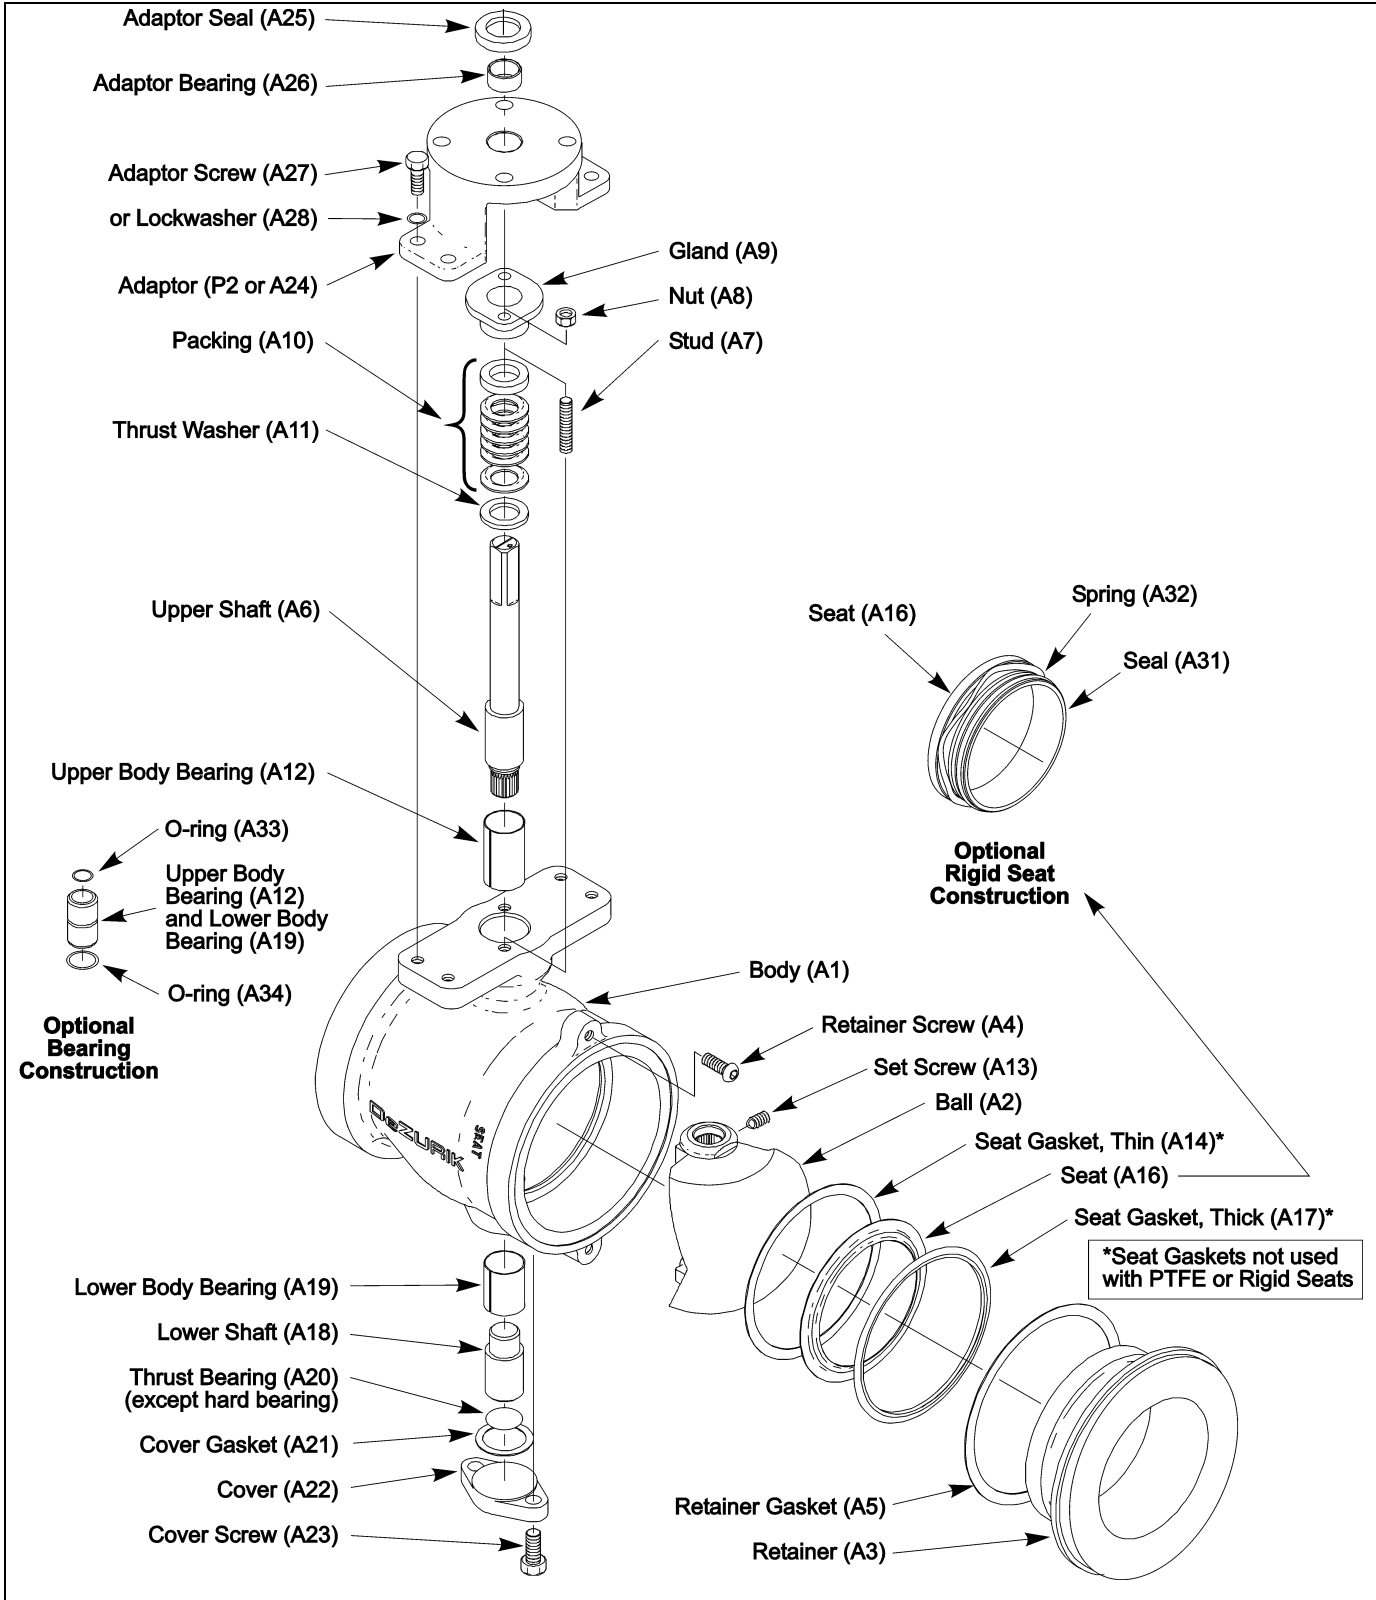
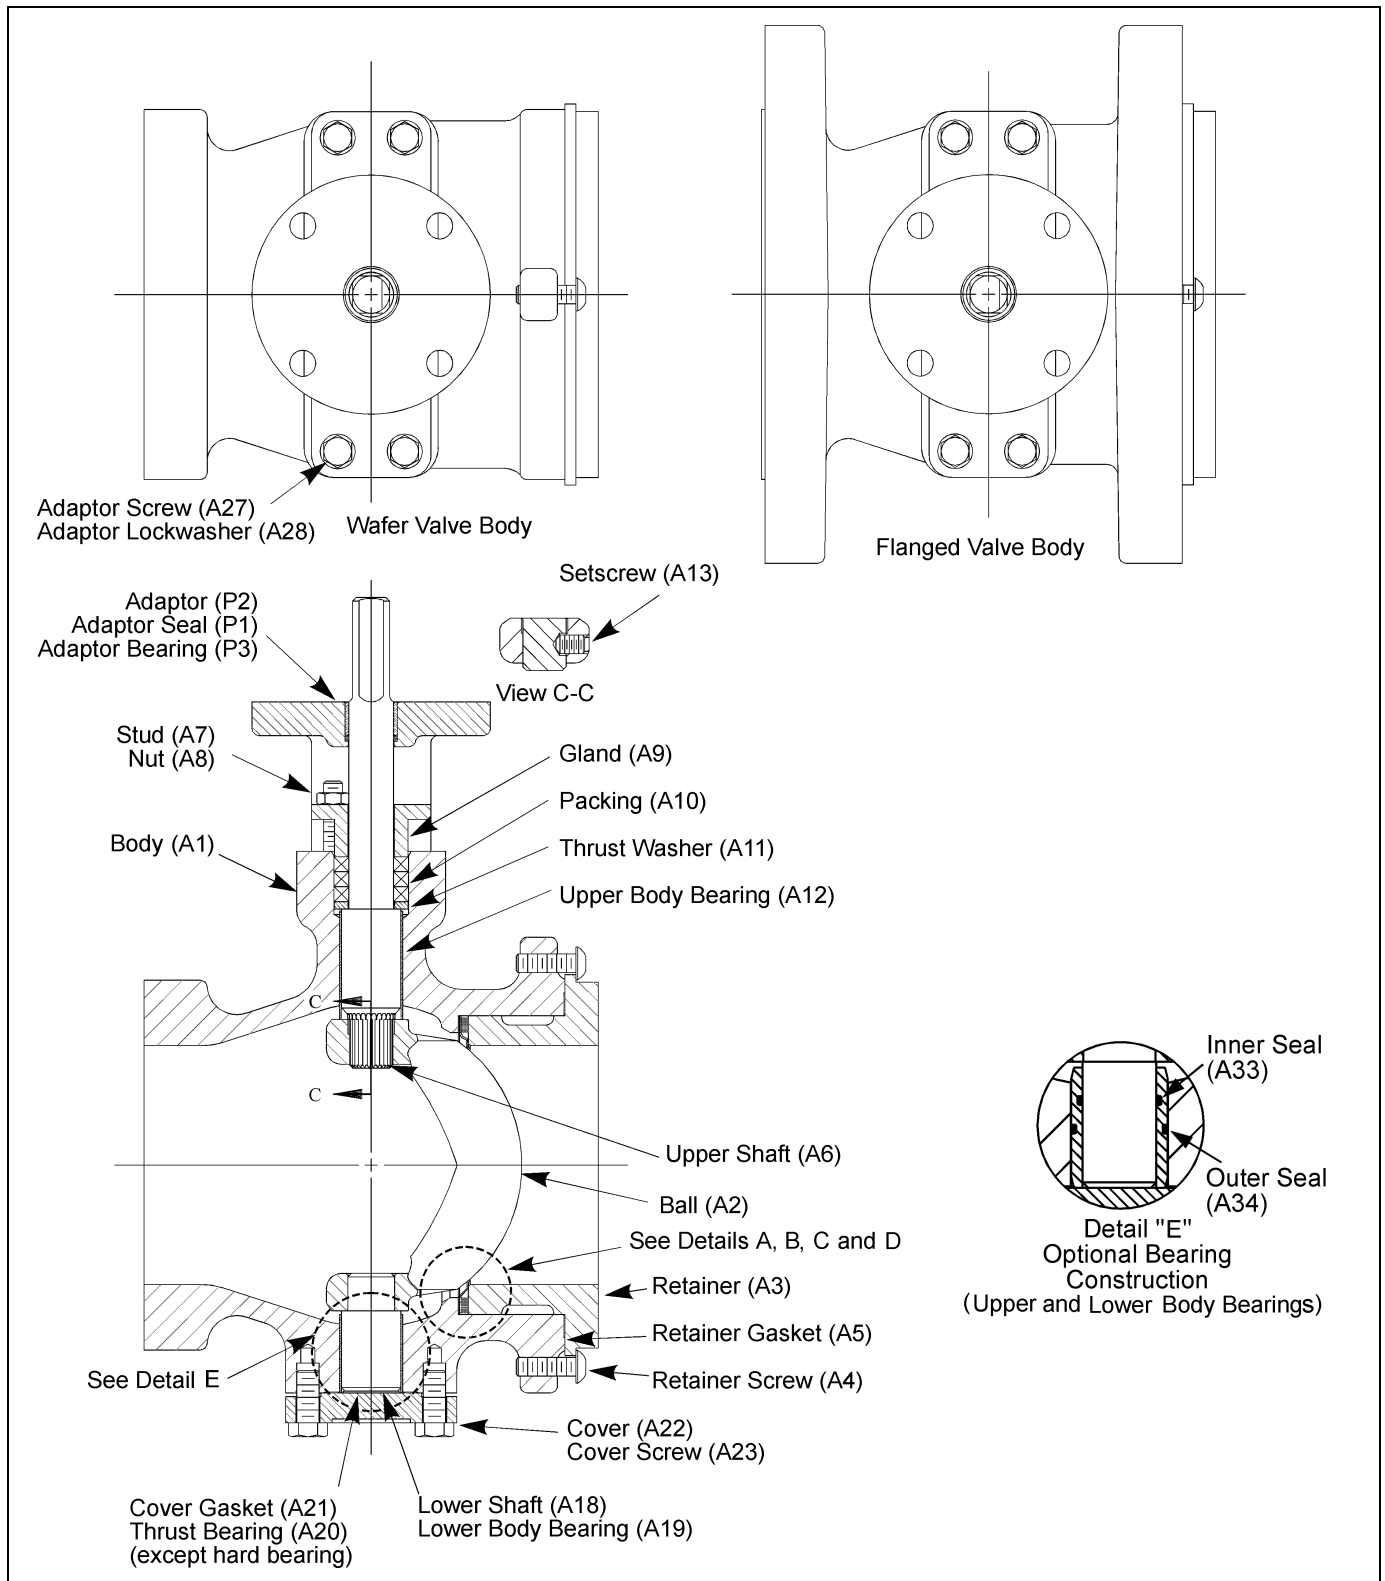
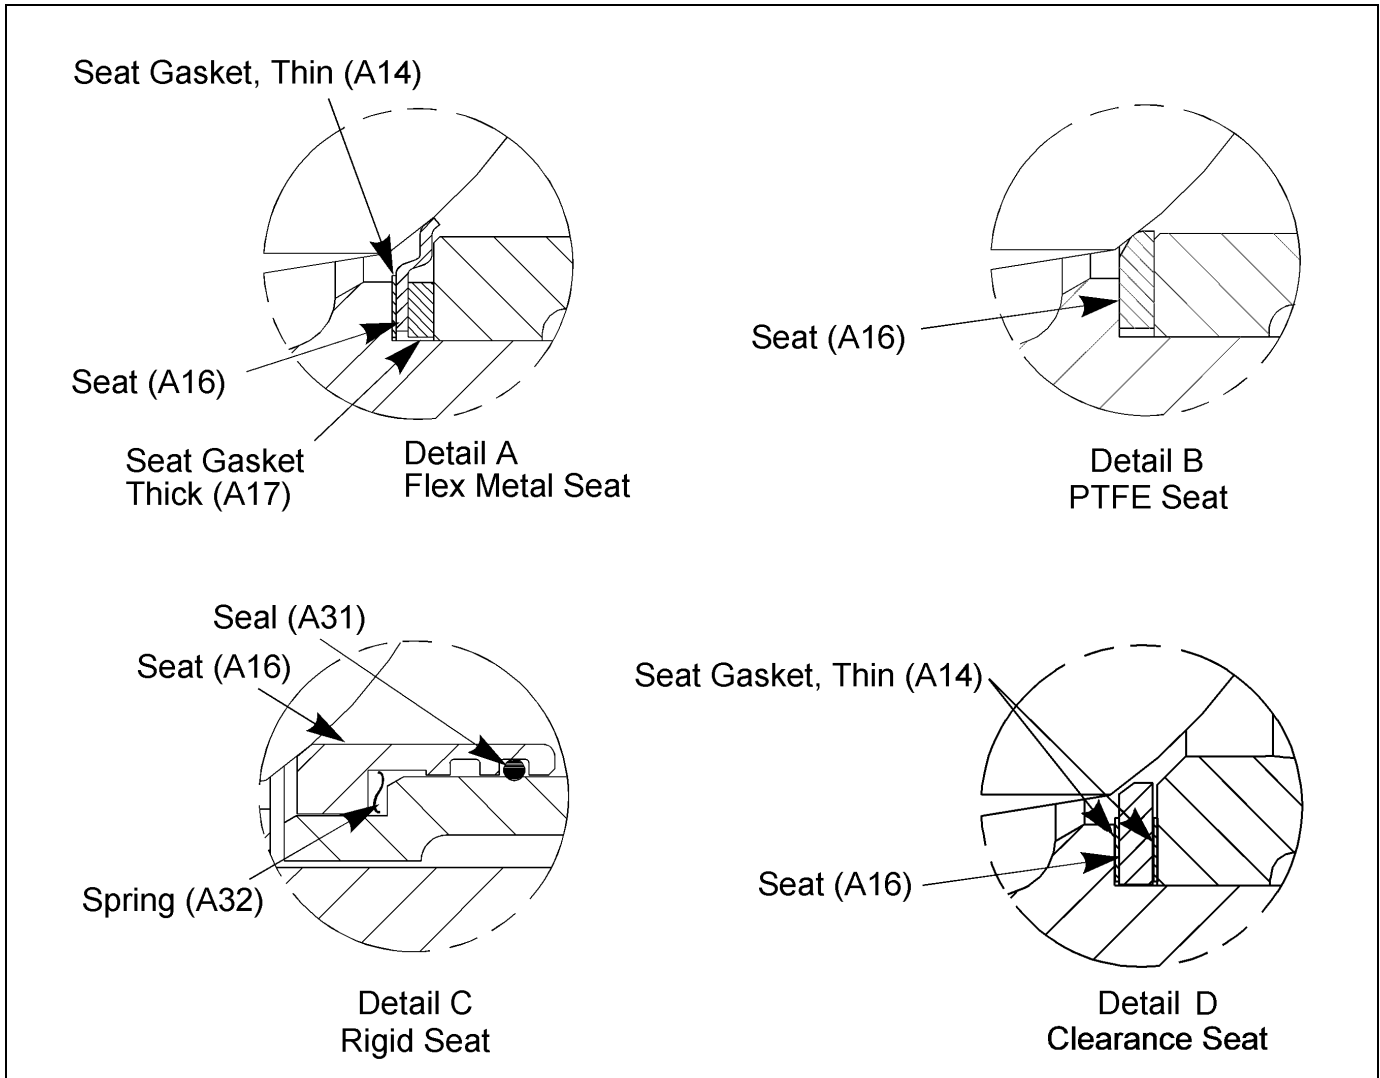

Figure 1 – Component Identification Disassembled
Figure 2A – Component Identification Assembled
Figure 2B – Component Identification (Seat Details)
The shaft seal consists of packing in the packing chamber of the body. The packing is contained and compressed by the packing gland. If the packing leaks, tighten the adjustment nuts (A8) on top of the packing gland (A9), shown in Figure 2A. Tighten the nuts evenly and gently — just enough to stop the leakage. Over-tightening will cause excessive operating forces, and will decrease the life of the packing.
See Figure 1, Figure 2A and Figure 2B for parts identification.
- b. Place the seat against the closed ball as shown in Figure 2B, Detail A.
- a. Place the seat (A16) into the bore of the body with the beveled side of the seat against the closed ball as shown in Figure 2B, Detail B.
- a. Place, in the following order, the thin gasket (A14), the seat (A16), and another thin gasket (A14) into the seat bore in the body as shown in Figure 2B, Detail D.
- e. Insert the seat (A16) into the retainer (A3). See Figure 2B, Detail C.
The valve may be disassembled and reassembled by following the steps in the next two sections. All parts should be inspected for wear, and worn parts should be replaced. Refer to Figures 1 and 2 for component identification.